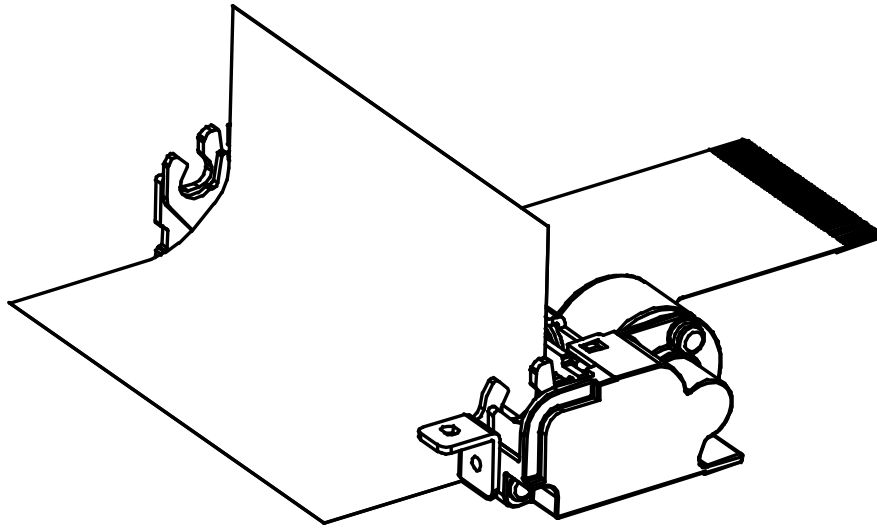

Figure 8-2 Loading the Thermal Paper (2)
- Set the thermal paper straight to the printer and leave at least 5cm of the thermal paper come out from the printer in the Figure 8-2.